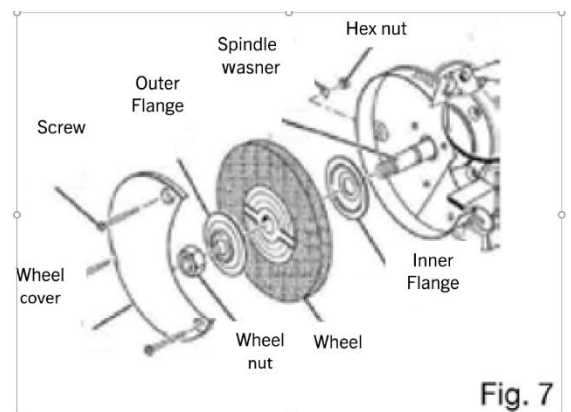

Fig. 7
1. Loosen the three screws and remove the wheel cover. (Fig.7)
2. Turn the nut clockwise with a wrench. (Fig.7)